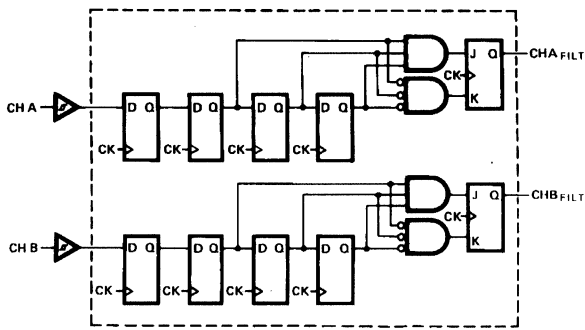

Figure 7. Simplified Digital Noise Filter Logic.
Figure 7 shows the simplified schematic of the input section. The signals are first passed through a Schmitt trigger buffer to address the problem of input signals with slow rise times and low level noise (approximately < 1 V). The cleaned up signals are then passed to a four-bit delay filter. The signals on each channel are sampled on rising clock edges. A time history of the signals is stored in the four-bit shift register. Any change on the
*CHAFILT AND CHBFILT ARE THE OUTPUTS OF THE DIGITAL NOISE FILTER (SEE FIGURES 7 AND 8).